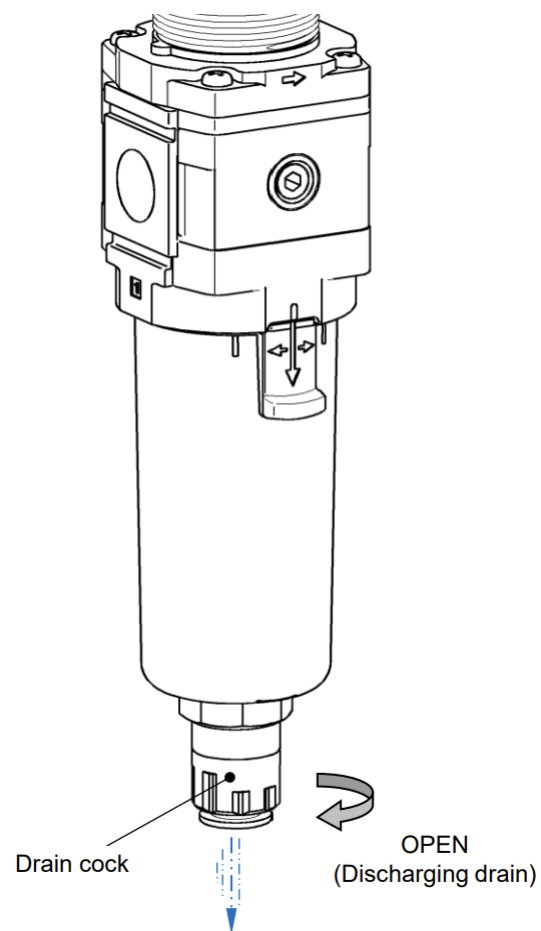

Figure 3.5.3-1: Auto Drain Type Drain Cock
3. To discharge the auto drain manually, turn the drain cock by hand as shown in Figure 3.5.3-1.